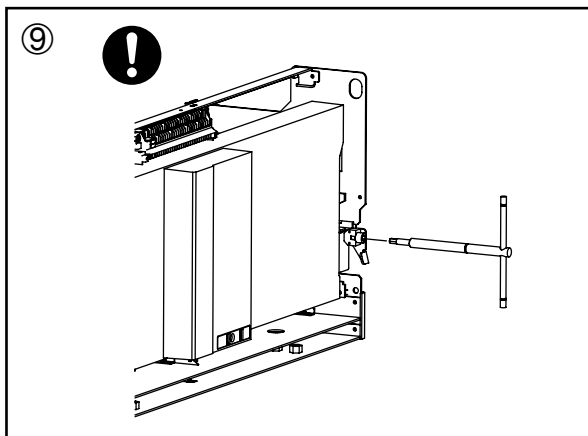

Fig. 12-5
- ⑨ For the AE4000 ~ 6300-SW series (See Fig. 12-5), shall be sure to tighten the screws on both sides to secure the breaker.